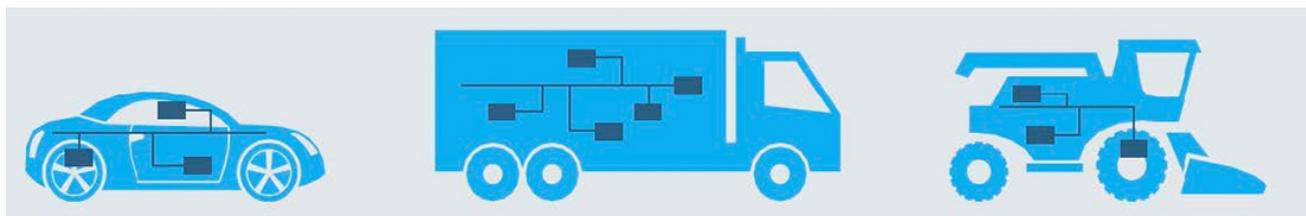

Figure 1: Road-vehicles and non-road mobile machines (Source: Softing Automotive)
Be it a passenger car, a heavy-duty truck or a non-road mobile machine (figure 1), preventive maintenance (PM) is an important measure to reduce unexpected breakdowns. PM is a scheduled process, performed at regular service intervals. It includes but is not limited to inspection, cleaning, and lubrication, but also the exchange of fluids, filters, spark plugs, and drive/timing belts. Predictive maintenance is similar to preventive maintenance and performed only when necessary. It consists of measures such as the exchange of a component that still functions but became conspicuous, because specific parameters indicate that a failure is about to occur, for example a bearing that started making noise. Predictive maintenance is associated with condition monitoring and performed by the service technician only when needed – but how is the need discovered? It's all about data - data is the new oil.